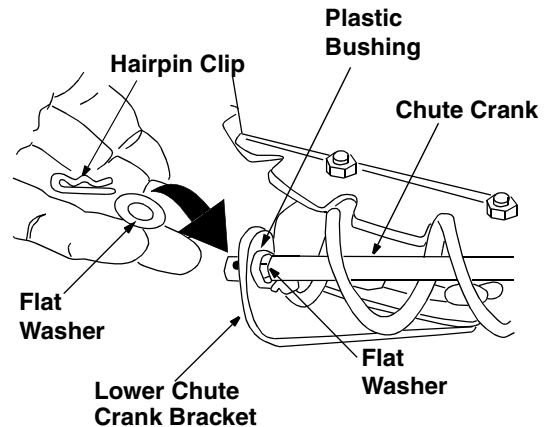

Figure 7
- Place one 3/8 ID flat washer (from group G of the hardware pack) on the end of the chute crank, then insert the end of the chute crank into the eye hole in the plastic bushing in the lower chute crank bracket. See Figure 7.
- Place the other 3/8 ID flat washer (from the same group of hardware) on the end of the chute crank and insert hairpin clip into hole at the end of the chute crank. See Figure 7.